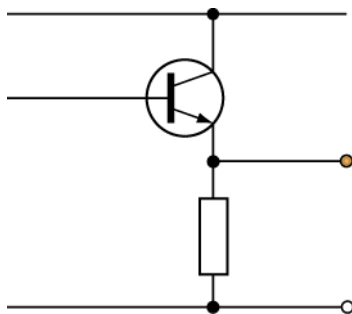

Fig. E5-5
5. When the base of Fig. E5-5 is raised, the emitter output voltage will;